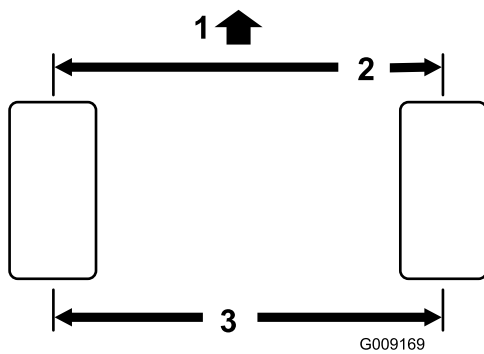

Figure 44
1. Measure center–to–center distance (at axle height) at front and rear of steering tires (Figure 44). The measurement must be $.12 \pm .12$ inch greater at the front of the tire than at the rear.